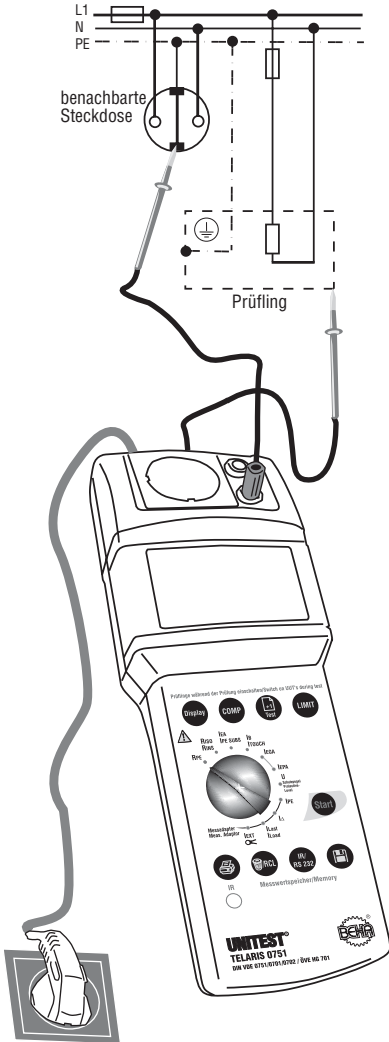

Figure 6.2: Measurement of the PE resistance for fixed installed appliances
- ▶ Connect the UNITEST TELARIS 0751 via the mains plug (1) to a functional and correct wired and grounded mains socket.
- ▶ Turn the ‘Measurement function’ selection switch (15) to position ‘RPE’.
- ▶ For fixed installed appliances, connect the PE connection of a neighbouring socket with the blue ‘PE’ socket (5), please refer to Figure 6.2.
- ▶ Connect the PE test connection ‘Probe’ (2) to touchable, conductive appliance parts of the UUT, in compliance with Figures 6.2 or 6.3. Ensure a good contact with the surface of the casing parts.
- ▶ Press the key “Start” (9). The unit symbol which is blinking on the display is an indication for the active measurement procedure.
- ▶ Read the measurement value from the LC display (6). If the limit value display is active, the symbol ‘LIMIT’ (21) indicates that the limit value has been exceeded.
- ☞ The appliances displays the AC resistance of the PE resistance connection. The key “Display” (17) is used to subsequently display the measurement values for the positive and negative test current during the measurement (display symbol $\Omega+$ and $\Omega-$).
- ☞ The measurement results can be saved by pressing the key “Store” (10). For any references regarding saving of measurement values, please refer to sections 7.1 and 7.2.